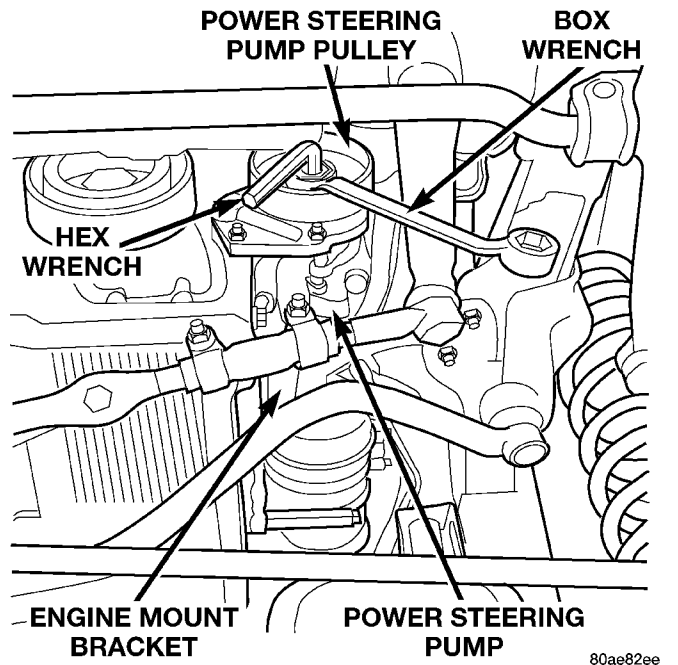

Fig. 1 Power Steering Pump Pulley Removal
- (1) Remove bolt securing A/C line retainer bracket to top of the valve cover.
- (2) Remove serpentine drive belt. Refer to Group 7, Cooling System, for procedure.
- (3) Remove power steering pump pulley. Use a hex wrench to secure the power steering shaft while removing the pulley bolt with a box wrench. (Fig. 1).